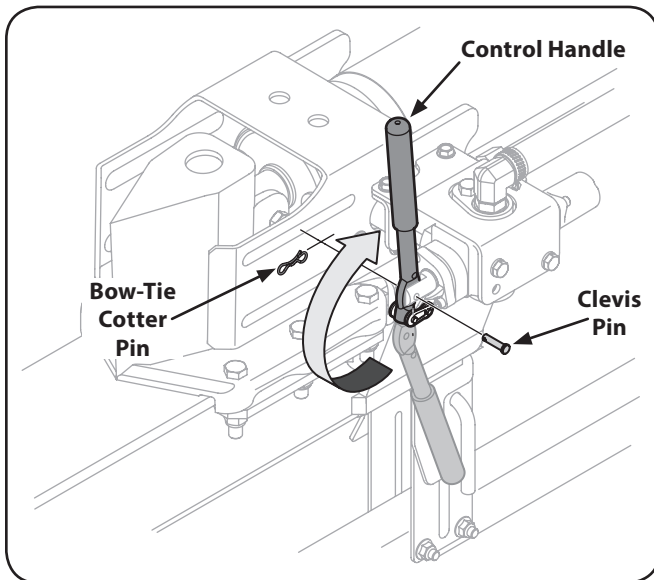

Figure 3-8
- Remove the clevis pin and bow-tie cotter pin from the control handle. See Figure 3-8.
- Rotate the control handle into the operating position and secure with the clevis pin and bow-tie cotter pin removed in step 1. See Figure 3-8.